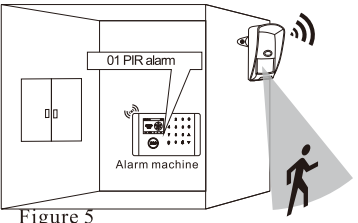

Figure 5
- ➋ At the far end of the covered area, perform transverse movement within the detection scope with the speed of 1 step/second from any direction (about 0.75m/s). The protect will alarm after detecting and the LED light is on for 3 seconds (shown in figure 5)